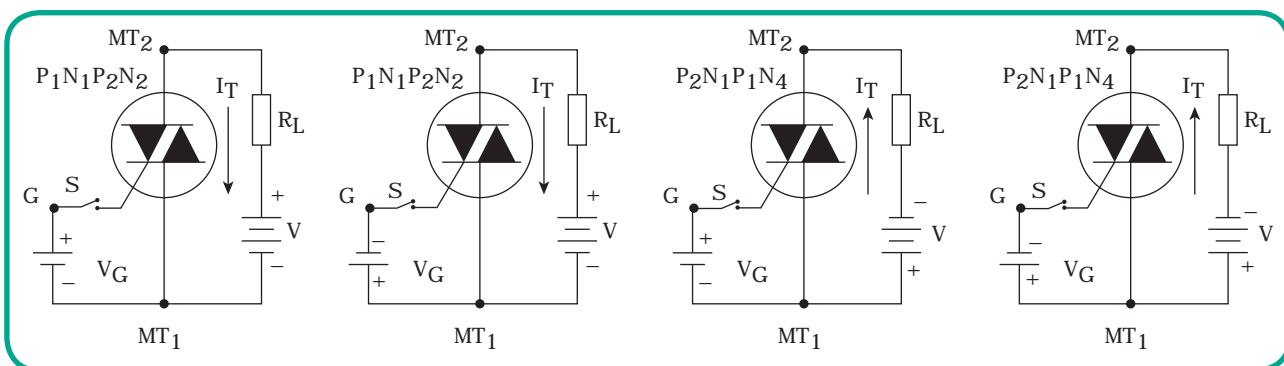

Figure 6.22 TRIAC Biasing Circuit
**Working Principle:** Figure 6.22 shows the TRIAC circuit; here the A.C supply is connected across the main terminals ( $MT_1$  &  $MT_2$ ) of TRIAC through a load resistor  $R_L$ . The gate circuit consists of battery, a variable resistor and switch. The TRIAC operation depends upon the polarity of voltage across its main terminals and gate terminal.